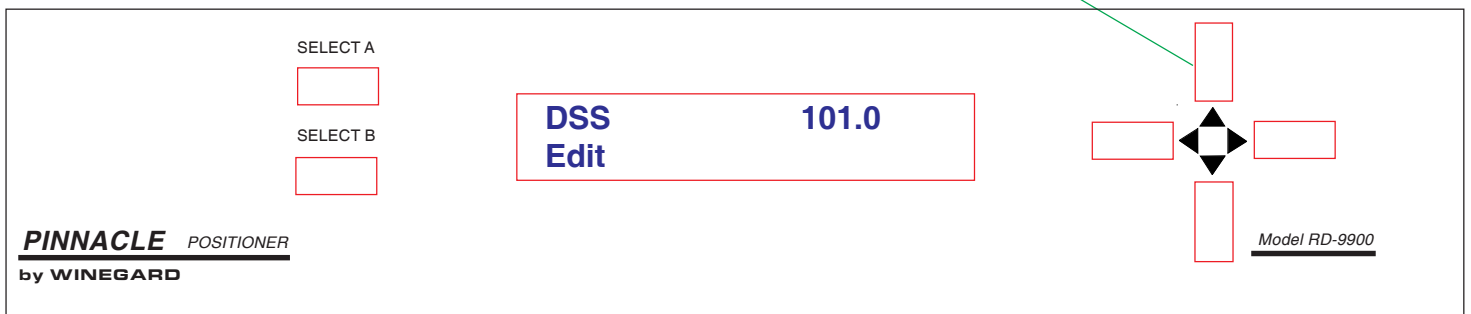

Figure 32
2. The display will show the current search satellite (factory default is the DSS® satellite(s) at 101.0 orbital position). Press **[UP]** arrow to scroll to next satellite, Figure 32.